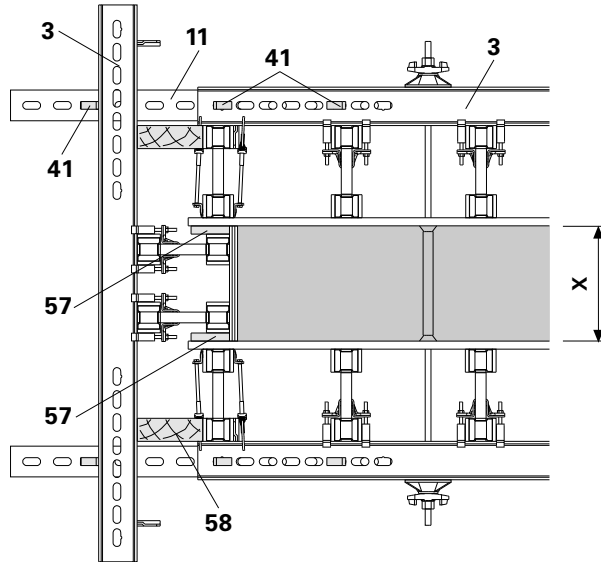

Fig. B9.01
1. Place prefabricated stopend element against limit plate (57).
2. Mount spacer timber (58) (provided by contractor).
3. Insert Coupling VKZ 99 (11) into the Steel Waler SRZ (3).
4. Fix Coupling VKZ 99 with Wedge KZ (41).
5. Hammer in KZ wedges (41) tightly to fix stopend panel. Pull wedge before push wedge. (Fig. B9.01)